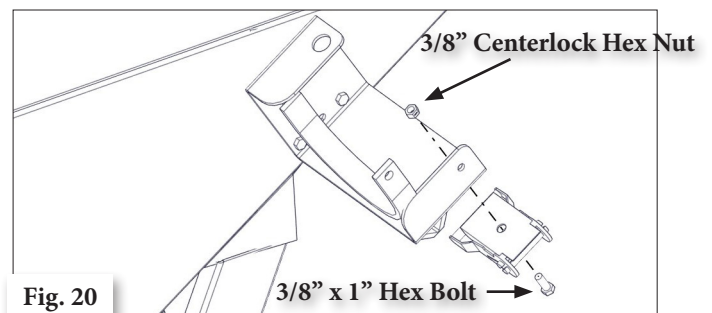

Fig. 20
- Attach the Ratchet to the Auger Transport Bracket using a 3/8" x 1" hex bolt and a 3/8" Centerlock Hex Nut. Fig. 20.